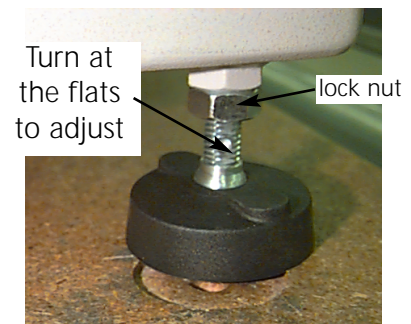

Figure 1-14
4. Install the 4 “feet” on the peripheral (see Figure 1-14). Turn the indicated flat section of the stem with an adjustable wrench to install or remove the foot on to the peripheral.